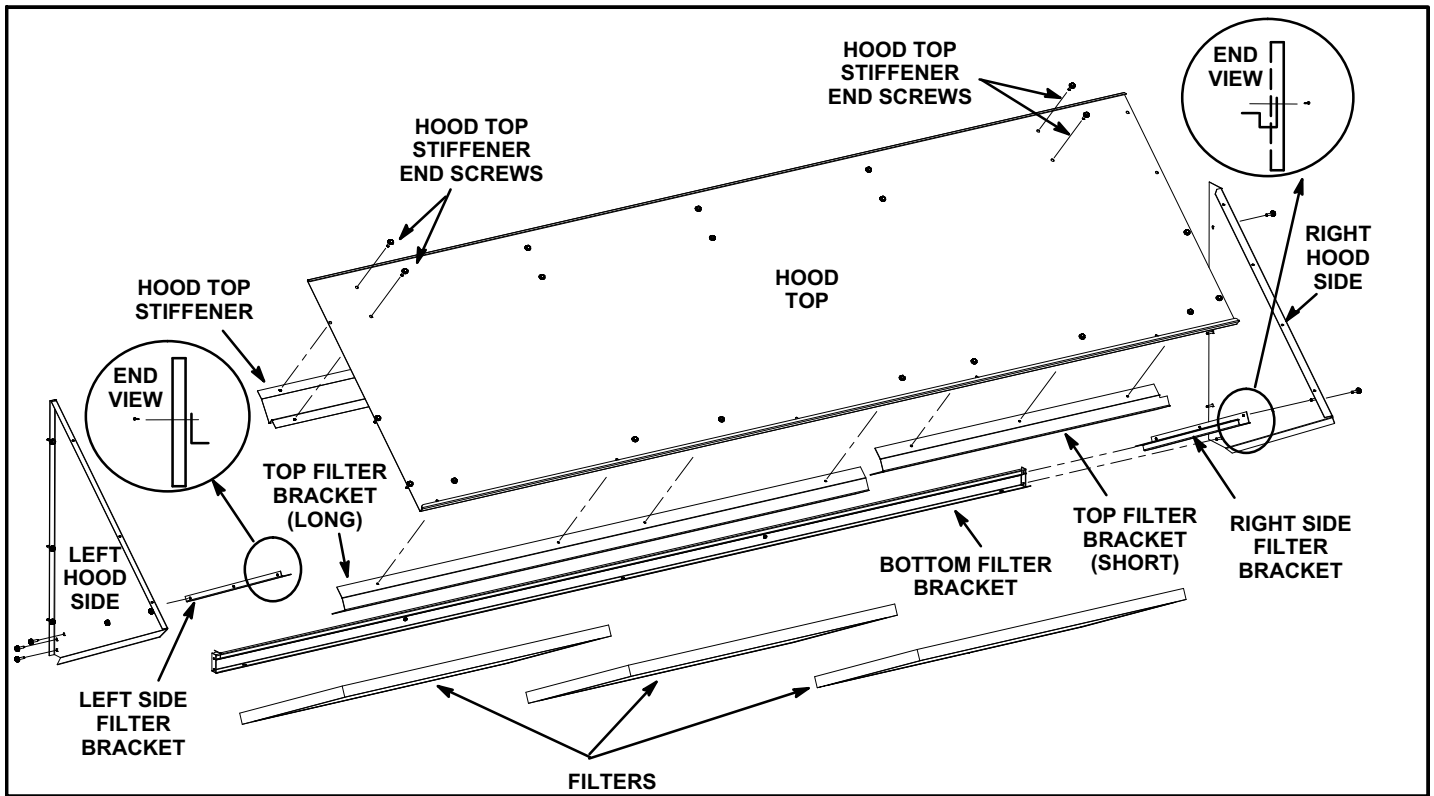

FIGURE 6
- 8- Install L-shaped left side filter bracket to left hood side. See figure 6.
- 10- Install the right side filter bracket to the right hood side. See figure 6.